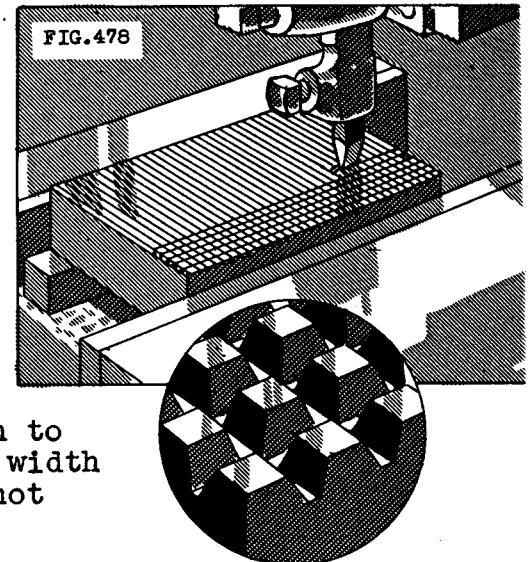

FIG. 479
4. Apply a small amount of lard oil or other suitable coolant and allow the tool to cut the second series of grooves. The spaces between the grooves will now be in the form of small squares with the sides of the squares parallel with the sides of the work (Fig. 479).